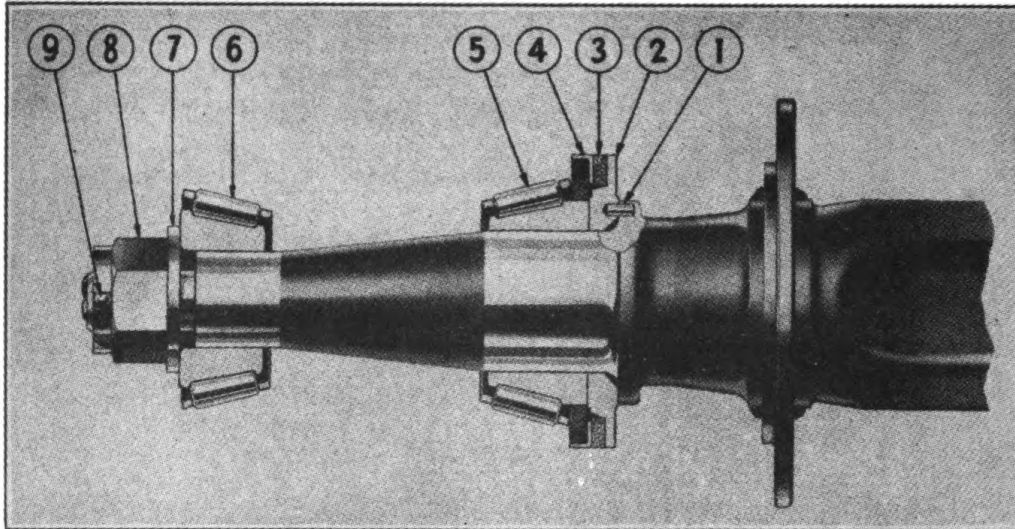

FIGURE 51. AXLE—CUTAWAY VIEW
b. To install the hub, proceed as follows: (Fig. 51.)